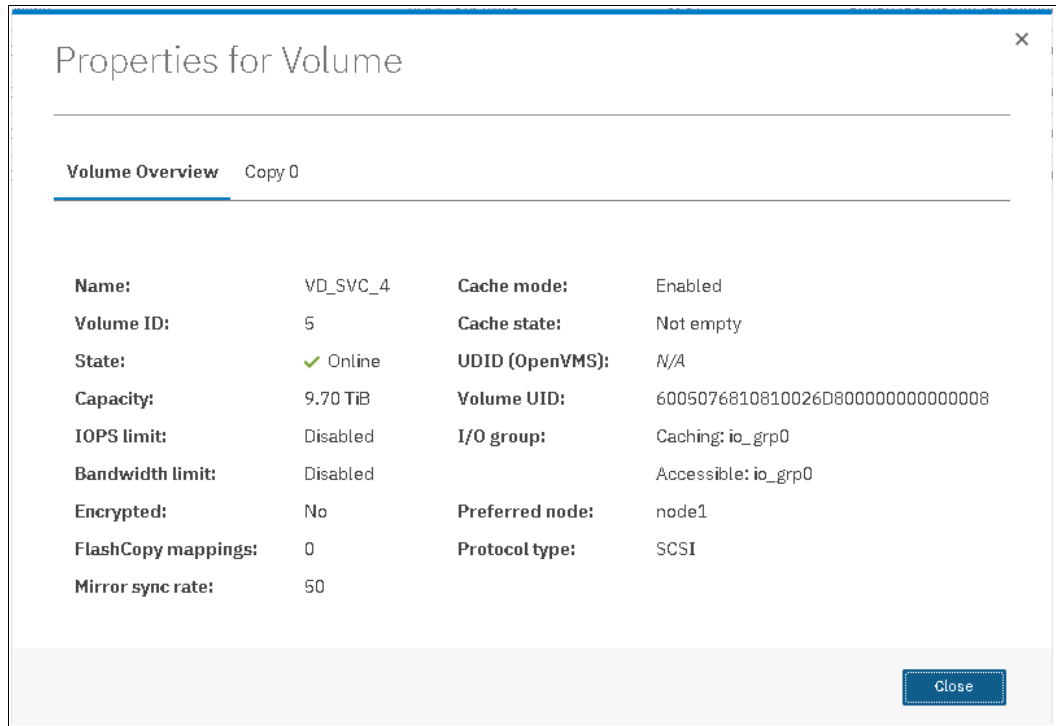

Figure 3-7 Storwize volume details
1. From the Storwize side first, check the Volume UID field that was presented to the IBM Spectrum Virtualize host, as shown in Figure 3-7.